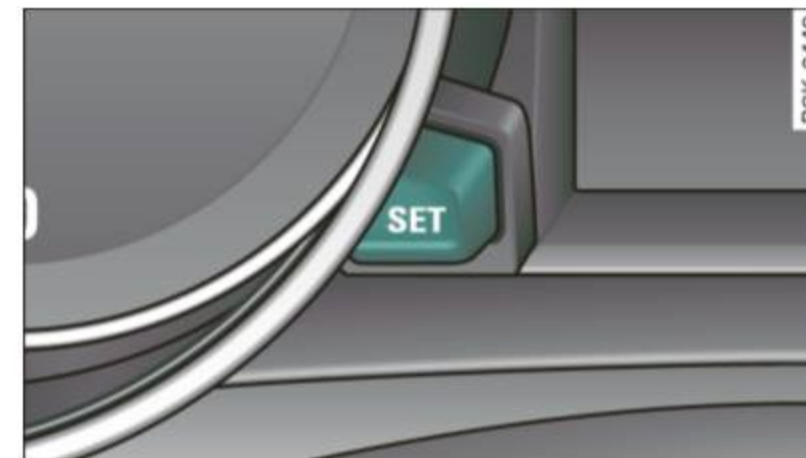

Fig. 3 SET button in the instrument cluster
The display appears for approximately 30 seconds when you press the **SET** button ⇒ *page 11*, fig. 3 with the ignition off.
- When the ignition is turned off, the odometer reading and the digital clock with date display can be switched on for about 30 seconds by pressing the **SET** button ⇒ *page 11*, fig. 3. ■
- The odometer can be turned on for approximately 30 seconds with the ignition off by pressing the **SET** button ⇒ page 11, fig. 3. ■